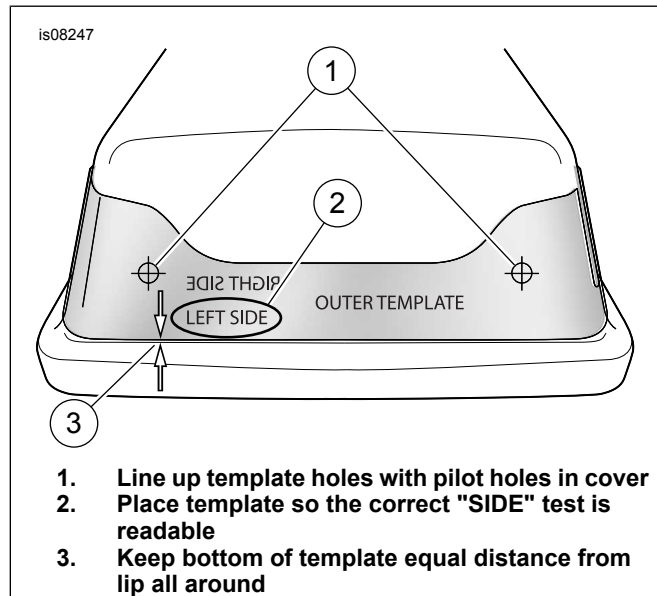

Figure 7. Position the Outer Template
7. Obtain the "OUTER TEMPLATE" from the kit. Place the template on the front of the saddlebag cover with the correct "SIDE" text readable, and with the two inboard holes lined up with the pilot holes drilled in Step 5. See Figure 7. Wrap the two ends of the template around the front corners of the saddlebag cover, keeping the bottom of the template an equal distance from the lip from end to end. Work any bulges out of the template, and tape it securely into place on the outside of the saddlebag cover. Double-check that the template is aligned correctly.